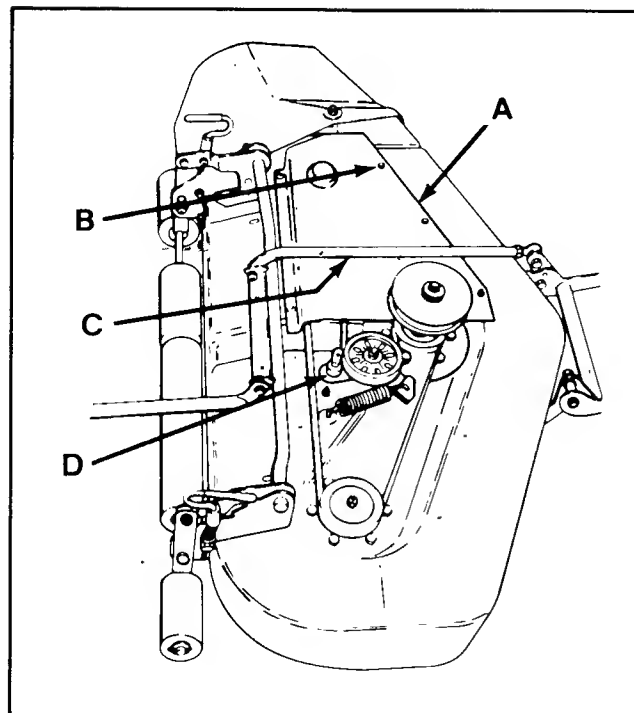

FIGURE 12 - Idler Pulley Pivot
3. Remove the taprite screws to remove the right hand cover (both covers can be removed to check-clean inside of mower deck). See Figure 12.